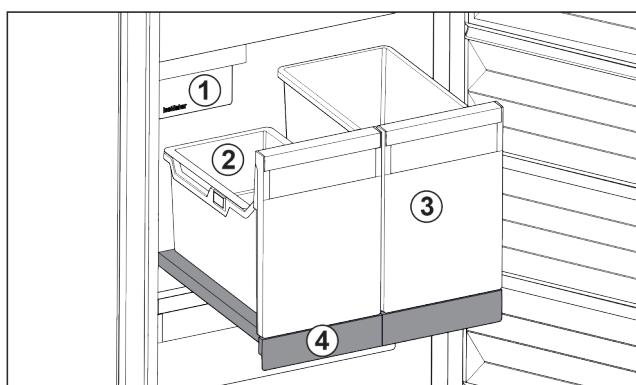

Fig. 95 Pull-out board with IceTower
(2) Hang-on tray for ice cubes (4) Pull-out board
On the pull-out board are two tall containers (IceTower). Ice cubes from the IceMaker are collected and stored in the container Fig. 95 (2). The container Fig. 95 (3) is suitable for storing tall foodstuffs or beverages such as pizzas or alcoholic drinks.